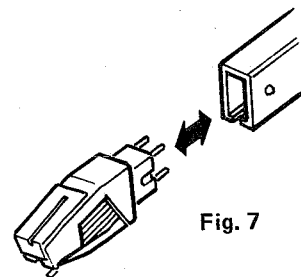

Fig. 7
2. Pull the cartridge forward as shown in Fig. 7.